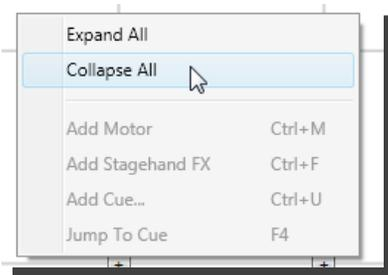
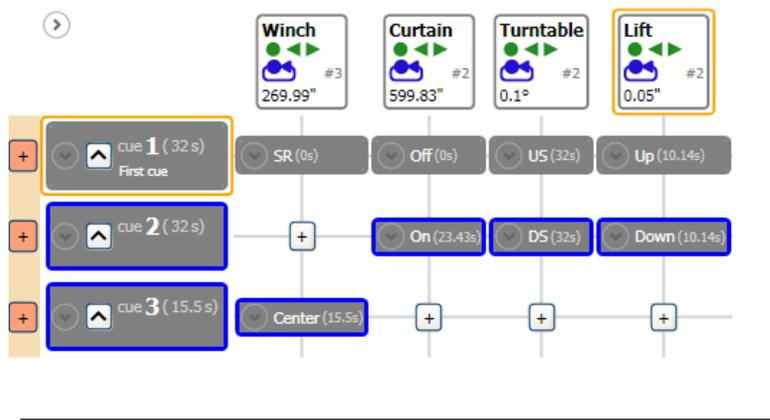

Figure 316
Figure 317
2. Hide all the speed and acceleration information for the cues by right-clicking in the **Cue Grid** and selecting **Collapse All** (Figure 316). *This will compact the Cue Grid while allowing you to see the time each cue will take and the positions of every motor (Figure 317).*